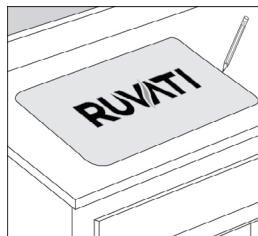

Figure 1
1. Place the sink cut-out template on the countertop, where the sink is to be installed. Trace around the outside perimeter with a pencil (Figure 1).